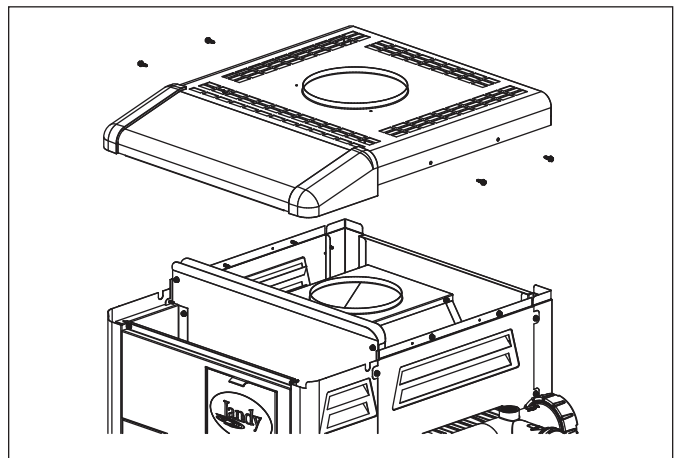

Figure 5. Installation Heater Top Enclosure
8. Replace the heater top enclosure and secure using four (4) screws, two (2) on each side of heater. See Figure 5. Check the alignment of the transition plate hole and the hole in the top enclosure.